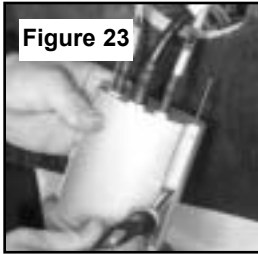

Figure 23
**STEP 3:** Reassemble the cover making sure that the cable bushings are seated properly and install the Keypad assembly into the cutout using the gasket supplied (see figure 23). DO NOT chalk Keypad in order that the unit may be serviced if the need should ever arise.